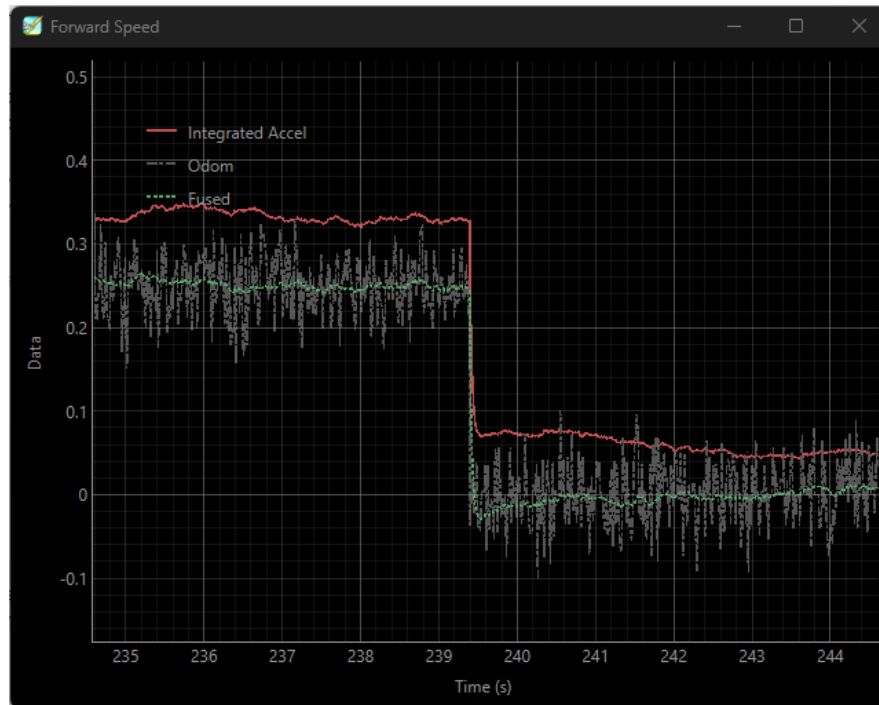

Figure 2: Fused forward speed estimate with tuned K_p and K_i gains
14. Run your code and observe the signals as you tune the gains K_p and K_i . How does each value affect how the signals are fused together? Tune the gains until the fused forward speed accurately tracks the correction signal with minimal noise. A sample tuned signal is shown in Figure 2.